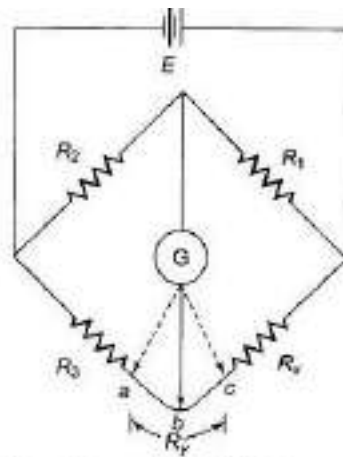

Fig. 4.7 Kelvin's Bridge
- Consider the circuit in Fig.4.7, where R_y represents the resistance of the connecting leads from R_3 to R_x (unknown resistance). The galvanometer can be connected either to point c or to point a.
From the Fig 4.7,